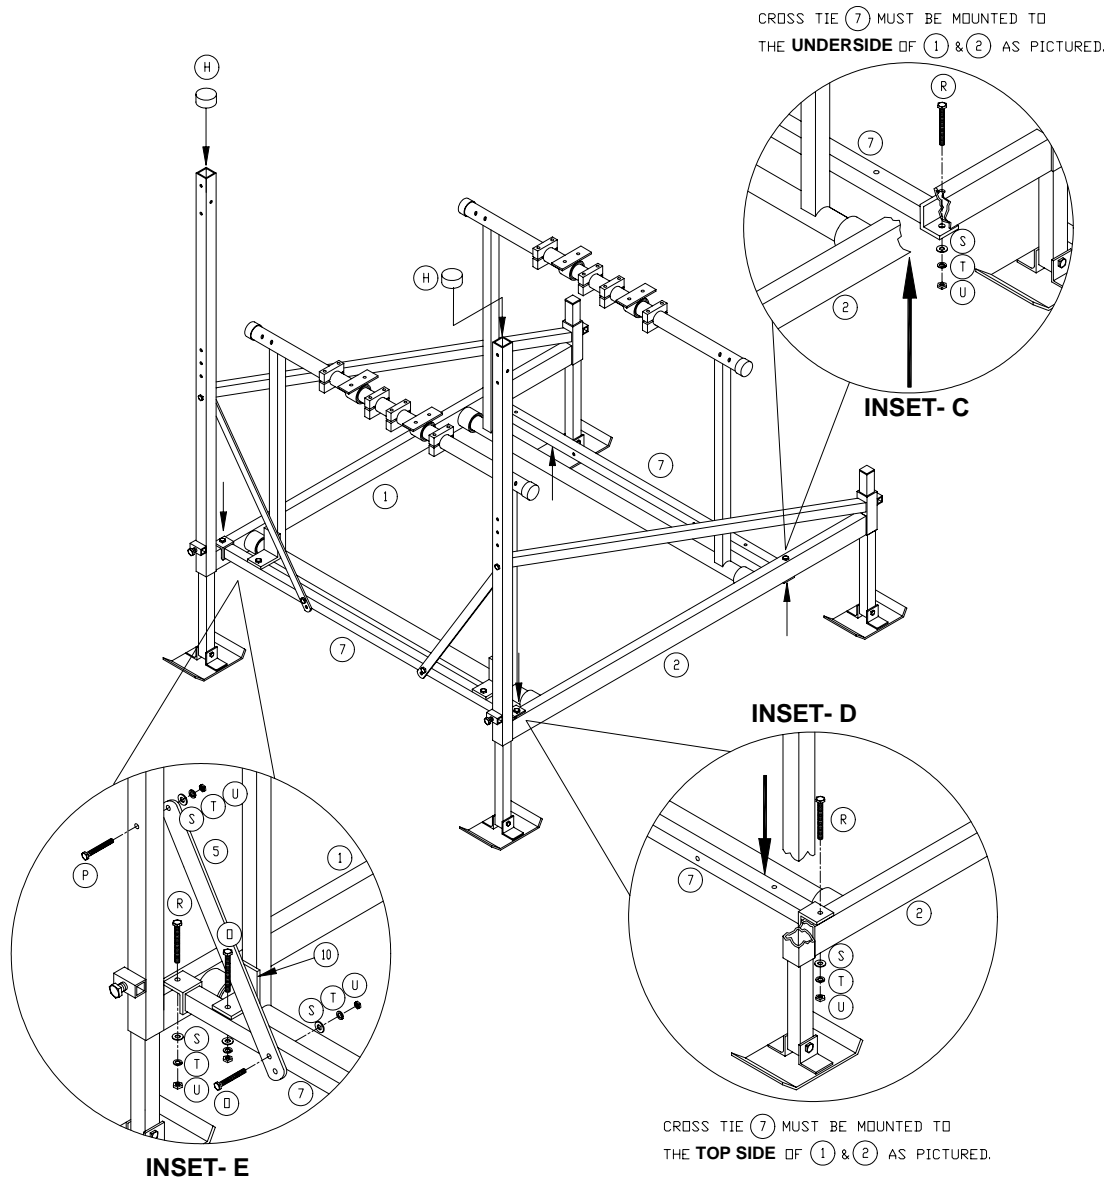

Figure 3-2
1. Refer to **Figure 3-2**. Attach stern end cross tie to **underside** of side assemblies as shown in **Inset C**.
5. Refer to **Figure 3-2**. Form the round soft plastic cap over the top of each square vertical leg of the side assemblies.